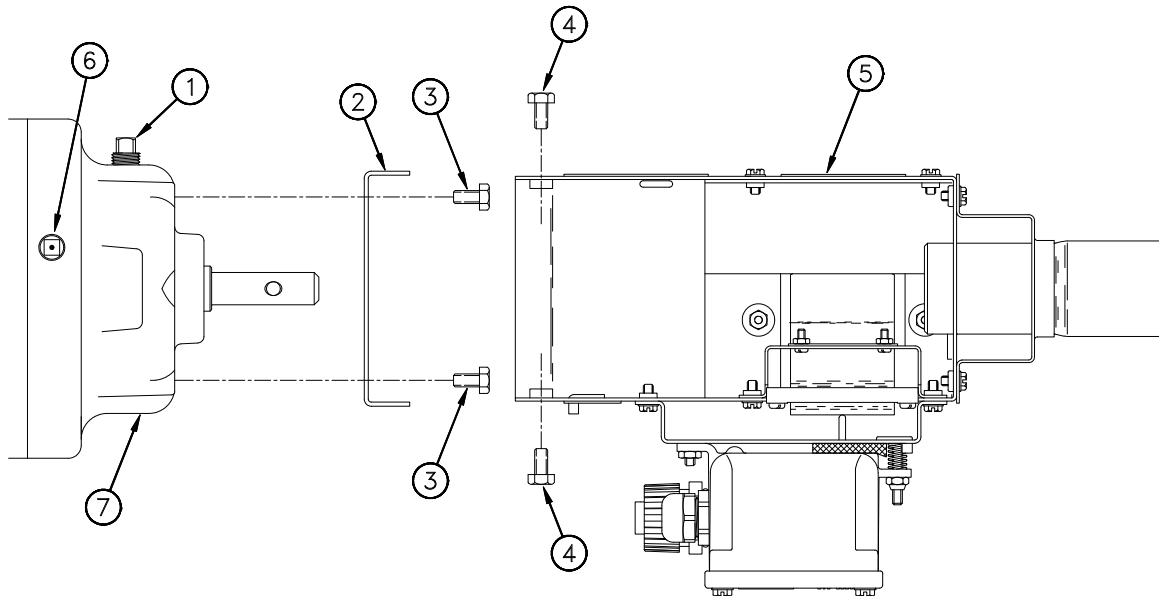

Figure 36. Attaching the Anchor Plate and Gearhead Assembly to the Control Unit Body
10. Attach the Anchor Plate and Gearhead Assembly to the Control Unit Body using the included 1/4" lock washers and 1/4-20 x 1/2" Bolts. See **Figure 36.**